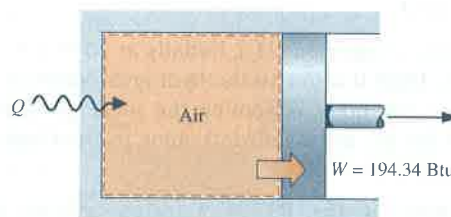

Fig. P3.117
- 3.117** As shown in Fig. P3.117, 20 ft^3 of air at $T_1 = 600^\circ\text{R}$, 100 lbf/in.^2 undergoes a polytropic expansion to a final pressure of 51.4 lbf/in.^2 . The process follows $pV^{1.2} = \text{constant}$. The work is $W = 194.34 \text{ Btu}$. Assuming ideal gas behavior for the air, and neglecting kinetic and potential energy effects, determine